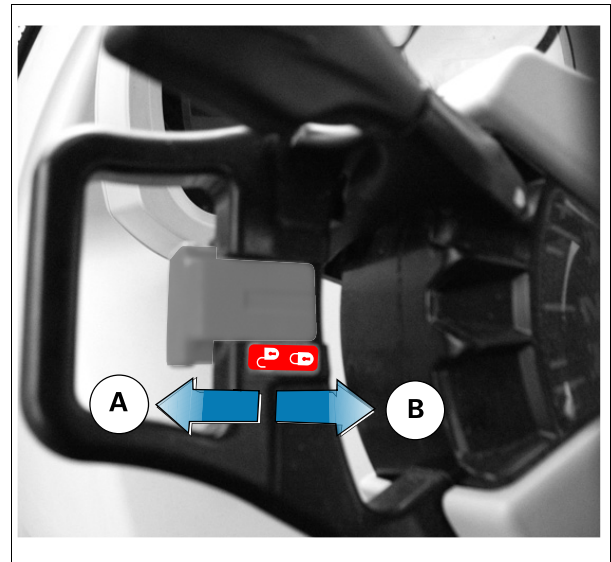

Fig. 3.
IMPORTANT: For the ParkLock to disengage after engine start-up, the electronic control must record a switch of the control (A) from the closed padlock position to the open padlock position fig. 3. If this condition is ignored, the ParkLock will remain engaged even if the control is in the padlock open position.
1. The ParkLock control should be **pulled** outwards according to **A** (open padlock symbol). The (P) indicator light goes out on the instrument panel. The P symbol remains on the right-hand screen of the instrument panel.